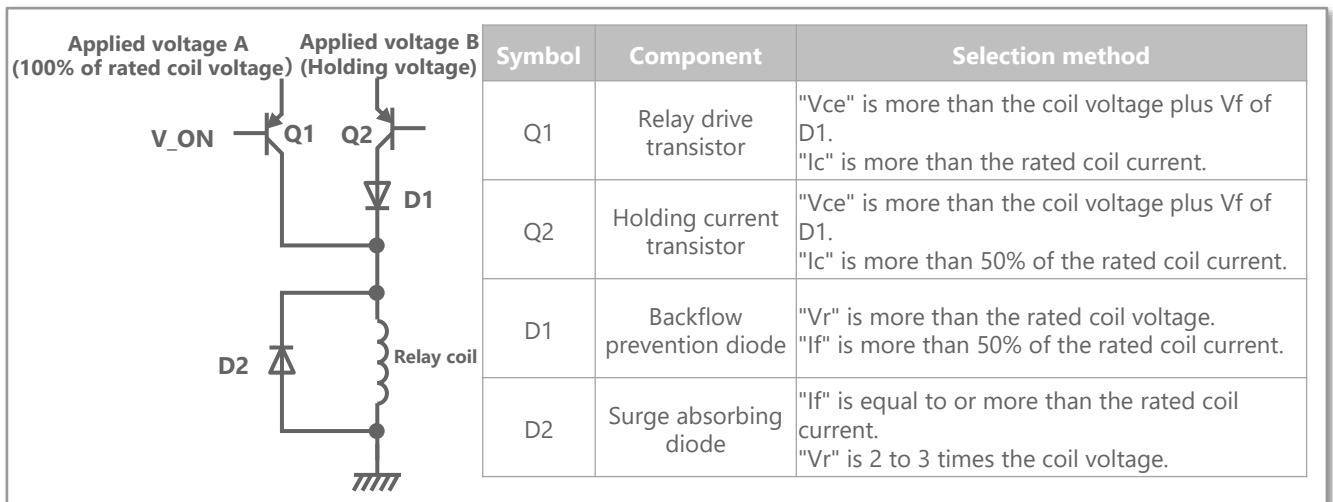

Figure 18: Recommended holding voltage circuit example with switch, and peripheral component selection method
If a low voltage (B) for holding the coil is available in addition to the rated coil voltage (A), it can be switched to the holding voltage by means of a switch. Switching to 50% voltage will reduce the current to 50%, thus greatly reducing the power consumption of the entire circuit to 1/4 of the rated value. (See Figs. 18 and 19).